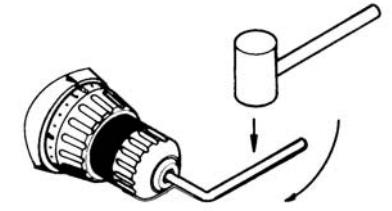

Fig. 10
3. Tighten the chuck around the shorter end of a 1/4”a or large hex key (not supplied) strike the longer end in the clockwise direction with a wooden mallet (see Fig. 10).